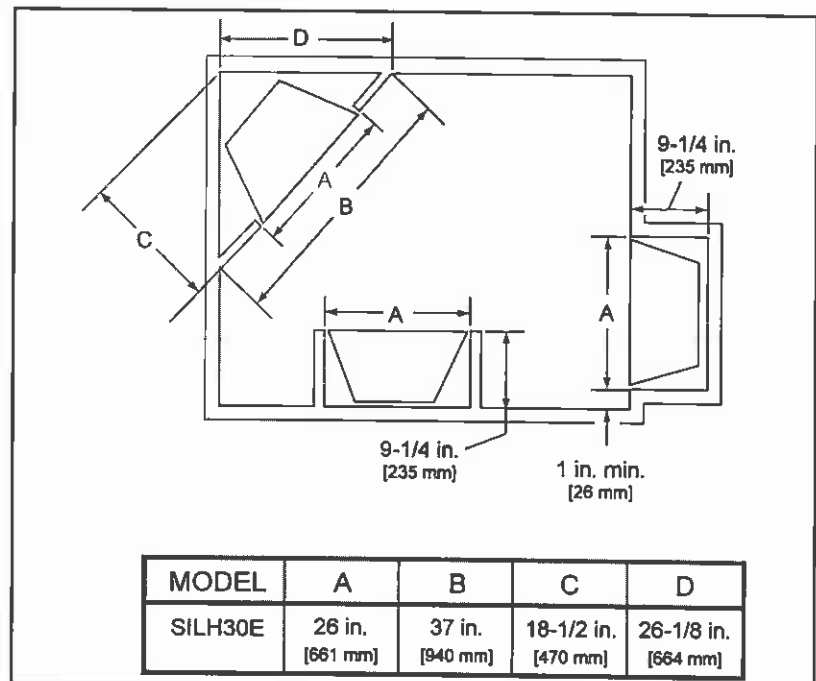

Figure 1 - Heater Locations
Figure 1 illustrates a variety of ways the heater may be located in a room. The Silhouette Series heater may be installed directly on the floor, carpet or raised on a hearth.
Figure 1 shows all clearances that must be maintained around the heater.
- 2) If using a wall cabinet or corner cabinet, refer to the installation instructions supplied with the kit. For custom cabinets, frame and construct with the opening and depth dimensions listed in Figures 1 and 2.
- 1) Follow recommended framing dimensions in Figures 1 and 2.